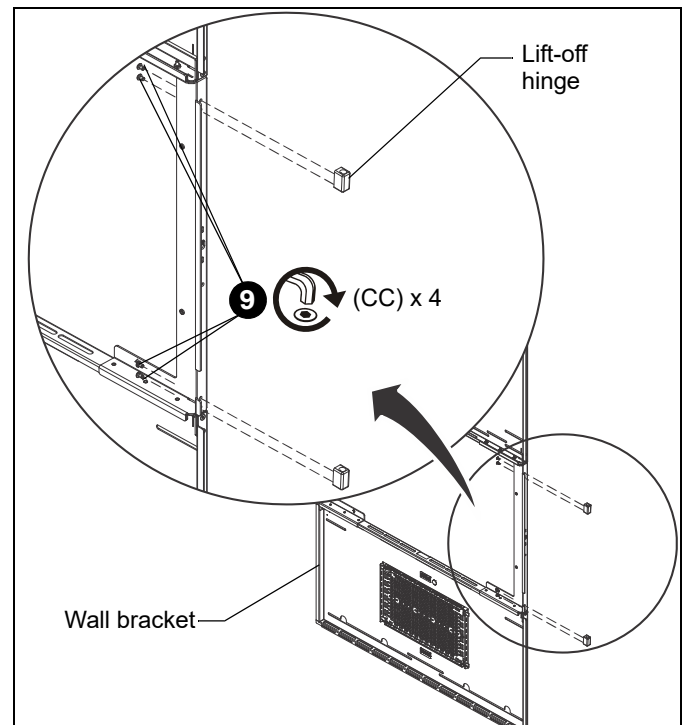

Figure 16
8. Move the lift-off hinges to the right side of the wall bracket. (See Figure 16)
9. Fasten in place with four (two each hinge) **NEW** 10-32 x 5/16" button head cap screws (CC). (See Figure 16)